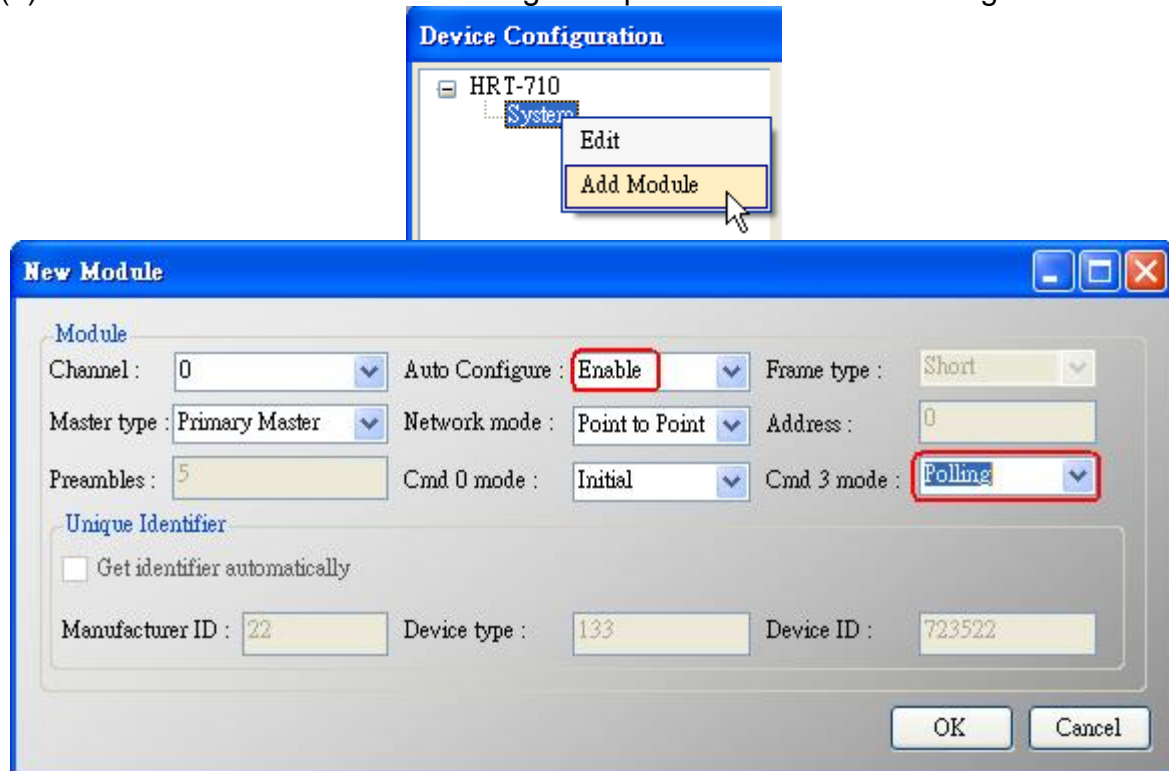

Figure 1-3 Add new HART device setting (Auto Config : Enable)
(1) **Method 1** => Choose “Auto Configure” option to be **Enable** like Figure 1-3.